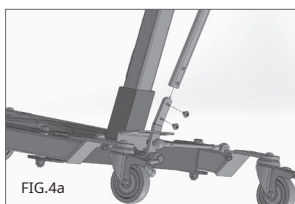

FIG.4a
6. Adjust the pedal to open the base legs and secure it with the supplied screw. (Fig.4a)